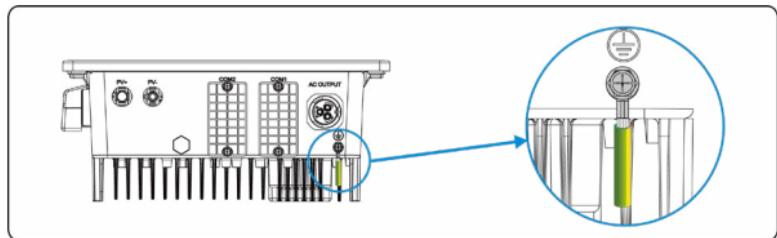

Figure 5.4 Secure the PGND cable
**Step 4** Secure the PGND cable (done by step 1 & 2) using the ground screw and tighten the screw using a socket wrench (torque 1.2 N·m),as shown in **Figure 5.4**.